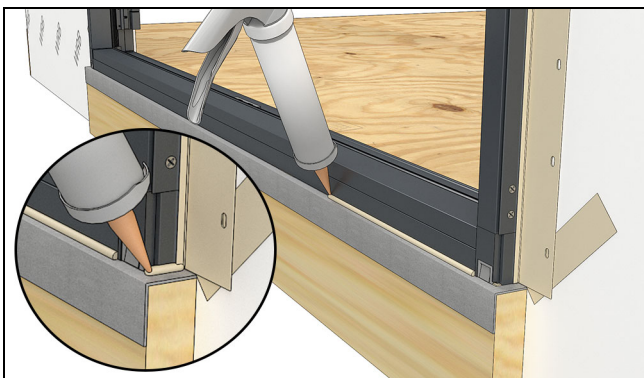

Figure 86
1. Apply a bead of sealant at the exterior face of the sill. Do not seal in front of the sill weeps. See Figure 86